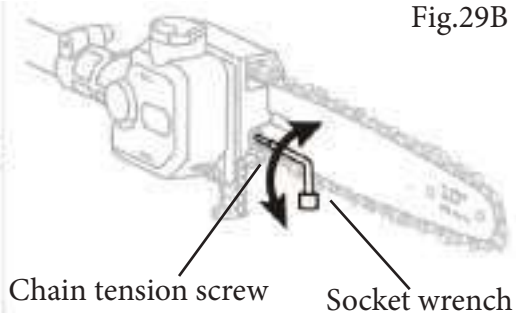

Fig.29B
- Turn the chain tension screw clockwise with the socket wrench provided when the tensioning of the chain is too low, or turn the chain tension screw anticlockwise when the tensioning of the chain is too strong. (Fig.29B)